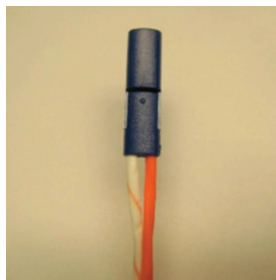

Figure 34: Inserting contacts into insulators
11. Using a blue insulator from the connector kit, insert the contact into an insulator with the solid colored wire in the hole on the right (Figure 34). Be sure to maintain a twist in each pair while inserting it into the insulator.